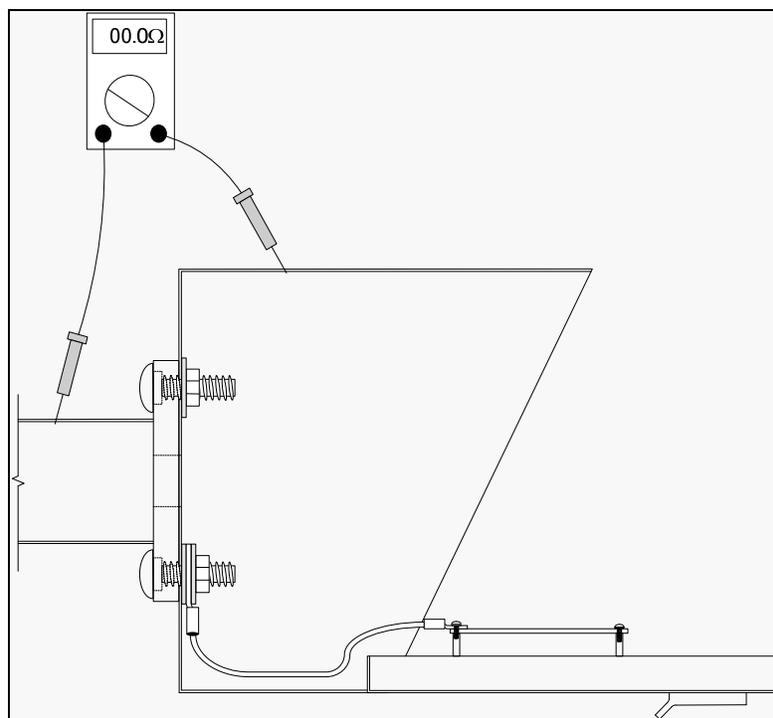

Figure 12 Continuity Testing Enclosure to Pedestal
Step 1: Measure the resistance between the pedestal and the enclosure as shown in **Figure 12** below.